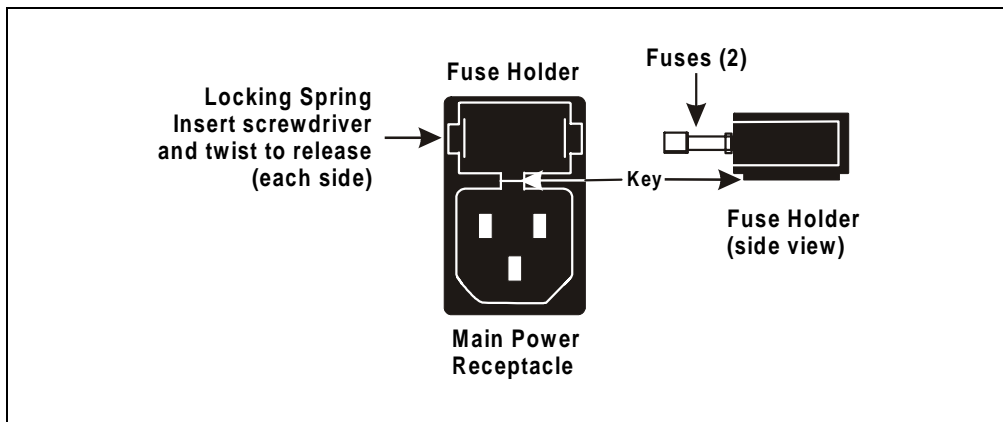

Figure 5-2. Main Power Fuse Holder
2. A recessed lock is located on each side of the fuse holder (see Figure 5-2). Using a small screwdriver, push each lock toward the center to release it. The fuse holder pops out approximately slightly when the locks release. When both locks are released, pull the fuse holder straight out of its compartment.